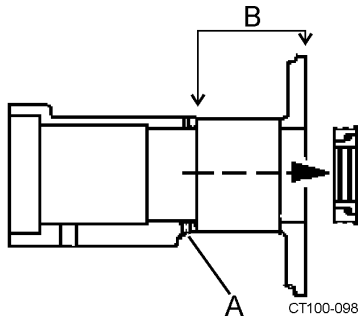
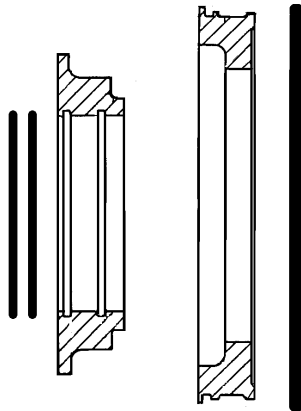
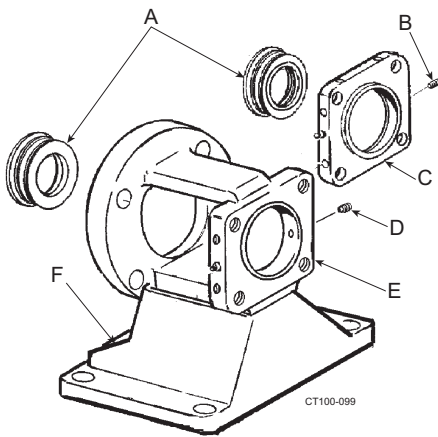

Figure 47 - Remove Setscrews
Figure 48 - Seal Configuration
Figure 49 - Outer Seal Assemblies
9. Remove the stand/housing assembly, then remove the end cap (Figure 49, item C on page 34).
1. Using an 1/8" hex wrench, loosen the setscrews (Figure 47, item A).
2. Remove the impeller end of the bearing housing (Figure 47, item B).
3. Remove the outer seal ring assemblies (the inner seal ring and O-rings). See Figure 47 and Figure 48.
NOTE: Figure 47 shows the seal position at the motor end. Seals at the pump end face inward. Make sure to tighten the setscrews when installing the outer seal assemblies (Figure 49).